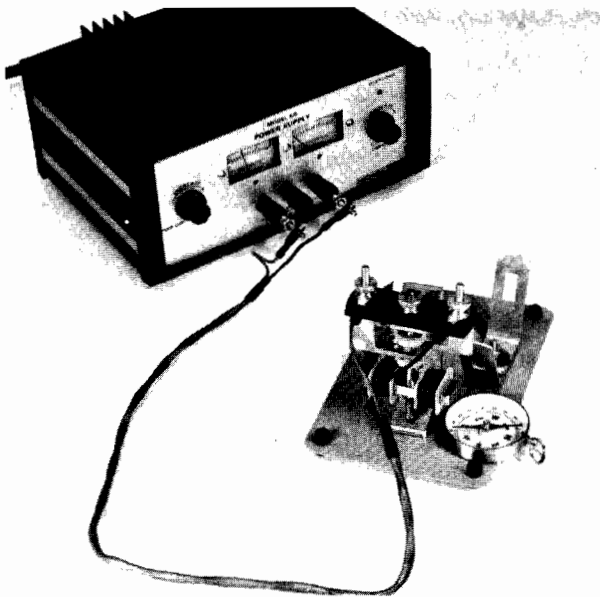

Fig. 12-1-1
7. Connect 5 V dc from variable dc power source to two brush holder bolts as shown in Fig. 12-1-1. Turn on circuit switch and slowly rotate armature. Note and describe action of com-
8. Place a compass near right hand side of armature. See Fig. 12-1-1. Rotate armature one complete revolution. What is polarity of armature on right side? _____ How does rotation affect polarity? _____